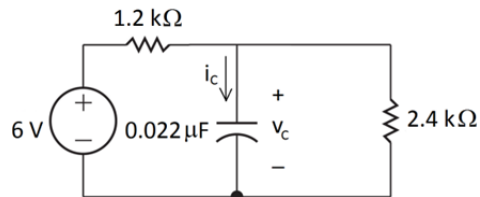

Figure 2: Capacitor DC circuit
2. For the circuit in Figure 2, determine the voltage across and current through the capacitor.